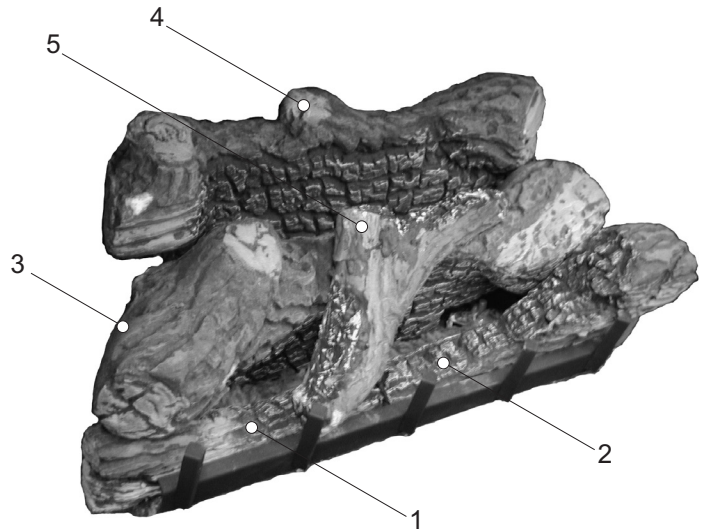
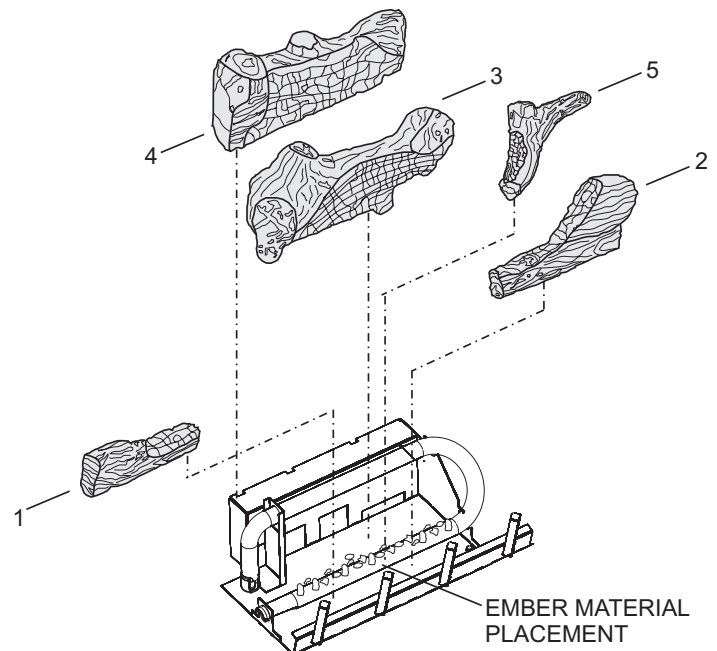

Figure 55
Figure 56
The positioning of the logs is critical to the safe and clean operation of this fireplace. Sooting and other problems may result if the logs are not properly and firmly positioned in the fireplace. Please refer to **Figure 55** and **Figure 56** and corresponding WARNING when completing following log placement instructions.
10. After all logs are positioned properly, apply Rockwool ember material to the front burner port area. To apply, carefully separate the ember material into small amounts no larger than "dime size" pieces. Fluffed up pieces one layer thick on top of the burner generally works best, and will provide the best ember glow. Do not place ember material more than one layer thick. No more than (1) small packet of ember material (part no. 15999) evenly placed on the burner, is recommended on DVD32 and DVD36 models. Using additional ember material will decrease the amount of ember glow effect. Extra ember material should be saved for future ember applications as necessary. See Figure 56.
**Attention:** Do not use Figure 55 or Figure 56 to order logs. Refer to parts list on pages 50 - 51 and parts view on page 52 to order logs and/or ember material for your appropriate fireplace model.